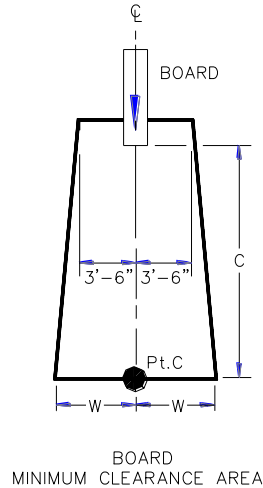

FIGURE 4
- A. The minimum clearance area in front of a properly installed diving board on an inground swimming pool is a minimum distance of three feet six inches (3'-6") on either side of the board's centerline as shown in FIGURE 4. Pt. C extends a minimum distance of "C" from the tip end of the board as shown in FIGURE 4. The width distance "W" on either side of Pt. C is given in Chart 1 and shown in FIGURE 4.